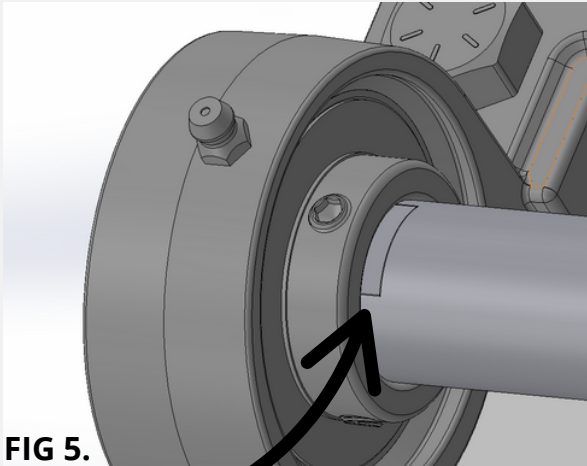

FIG 5.
6. Make sure that one of each Bearing has a set screw lined up with the flats on the Bearing Shaft, as shown in Fig. 5. There should be approximately 1/2" of Shaft past the Bearing.